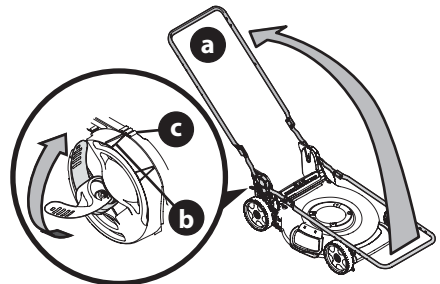

Figure 13
- While stabilizing mower so it doesn't move, lift the upper handle up (a) (Figure 13). Do not crimp blade or drive control cables while lifting the handle up.
- When lifting the upper handle ensure the position indicator (b) aligns with one of three handle positions (c). See inset, Figure 13.
- Lock the two handle release levers. See inset, Figure 13.